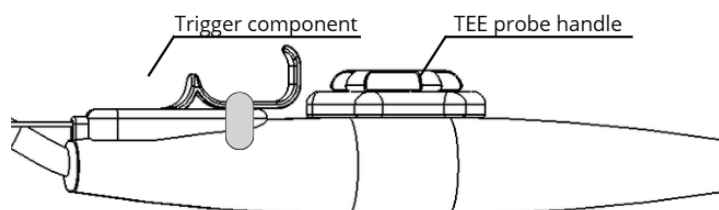

Fig. 3
3. Strap Trigger component on TEE ultrasound probe handle (see Fig. 3).